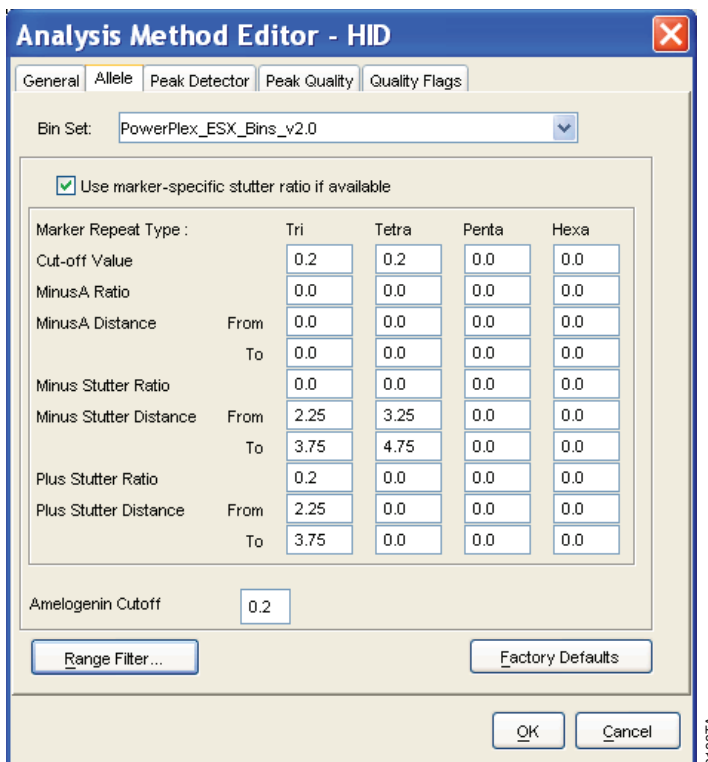

Figure 20. The GeneMapper® ID 'Allele' tab with settings for using a 20% peak filter.
6. Select the 'Allele' tab (Figure 20).
8. Ensure that the “Use marker-specific stutter ratio if available” box is checked. Doing this will assign locus-specific stutter filters and distances from the imported stutter file. Ensure that the appropriate global filter is applied to this analysis method. For example, for a 20% filter enter “0.20” for the Amelogenin Cutoff and Global Cutoff Value for Tri and Tetra repeats (Figure 20).
9. Enter the values shown in Figure 20 for proper filtering of peaks when using the PowerPlex® ESX 17 System. For an explanation of the proper usage and effect of these settings, refer to the Applied Biosystems user bulletin titled “*Installation Procedures and New Features for GeneMapper ID Software 3.2*”.